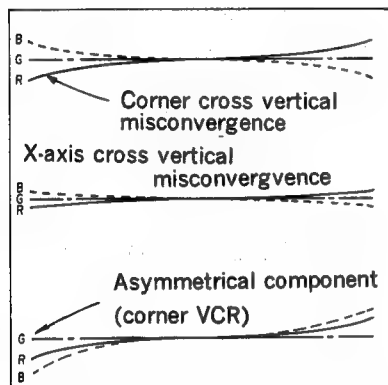
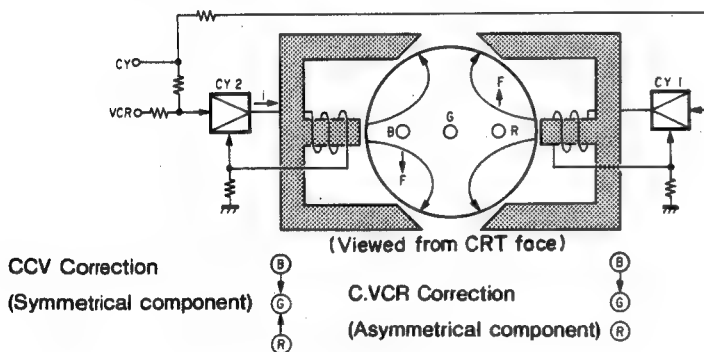

Fig. 36. Vertical Dynamic Misconvergence
Fig. 37. Convergence Yoke Compensation Principle
There are three main types of vertical dynamic misconvergence: Corner cross vertical misconvergence (CCV), X-axis cross vertical misconvergence (XCV), and asymmetric components at the corners (corner VCR or Vertical Center Raster), as shown in Fig. 36. These are compensated for by the convergence yoke (CY) shown in Fig. 37.
Corner vertical misconvergence and X-axis cross vertical misconvergence compensations are performed by the CY OUT compensation waveform generated by the M2 board. After being divided by R52 and R53 on the S board, the CY OUT signal passes through R6 and R33, and is then input to the CY circuit. After passing through R6, the CY OUT signal is input to the differential amplifier circuit composed of Q3 and Q4. The resulting output passes through the Q5 drive circuit, and then it is output from the complementary SEPP circuit composed of the Q8 and Q9 output transistors. This current is delivered to CY1 and the red beam is compensated. In the same way, the CY OUT signal input through R33 passes through the differential amplifier circuit composed of Q12 and Q13, and through the Q14 drive circuit. Then it is output from the Q17 and Q18 output transistors and this current is delivered to CY2. Compensation is performed so that blue and red beams move in opposite directions. This allows the red and blue beams to be aligned with the green beam as shown in Fig. 37.
The C VCR compensation signal generated at the M2 board is input to the CY2 drive circuit through R55, allowing for corner VCR component compensation by independently correcting the blue beam as shown in Fig. 37.